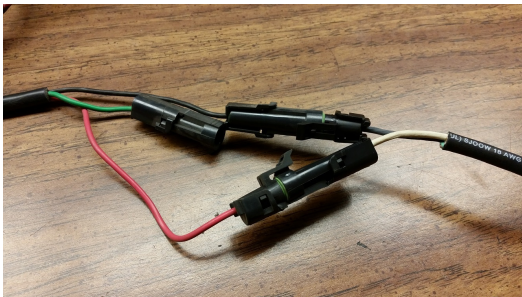

Figure 60
Step 2. Connect foot pedal to wire that ran to cab (mentioned in Step 1). (Figure 60)